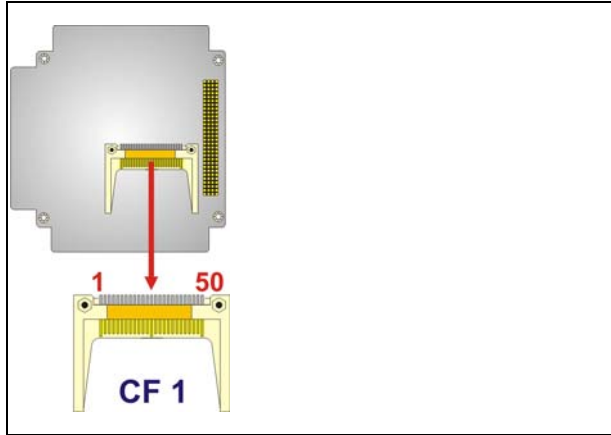

Figure 3-7: CompactFlash® Connector Location
- CN Location:** See **Figure 3-7**